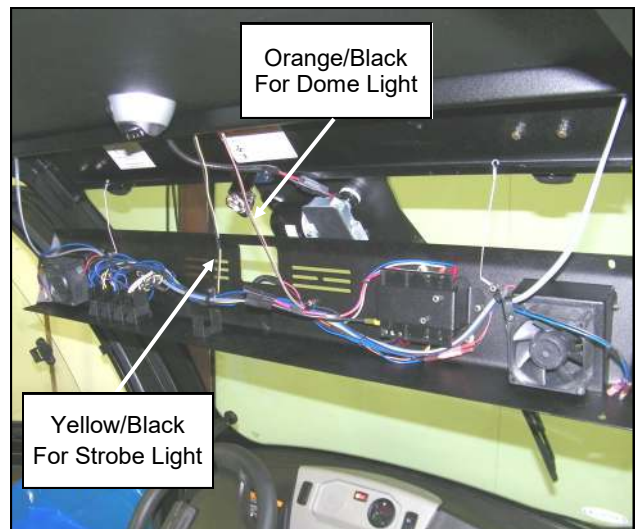

Fig. 2.3
- 2.3 Cut the cable tie from each of the two coiled wires inside the console indicated below. Be careful to not cut any wires. Feed each wire through the hole in the roof directly above the wire. See figure 2.3.